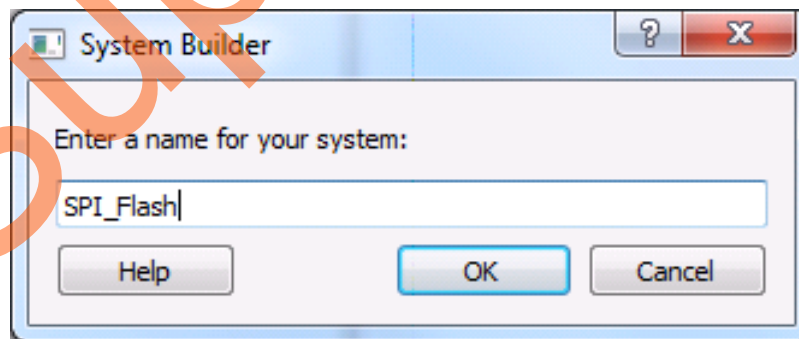

Figure 6 • System Builder Window
8. Enter the name of the system as **SPI\_Flash** and click **OK**, as shown in Figure 6.